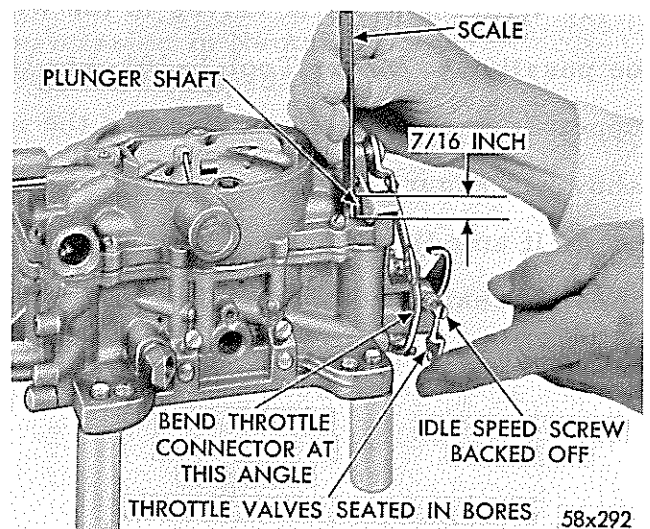

Fig. 4-Measuring Accelerator Pump Travel
(1) With the choke valve wide open (to release the fast idle cam) close the throttle valves. Measure the distance from the top of the plunger shaft, using a "T" scale, as shown in Figure 4. This distance should be  $7/16$  inch.
(2) If an adjustment is necessary, bend the throttle connector rod at the lower angle, using Tool T-109-213, until correct travel has been obtained.